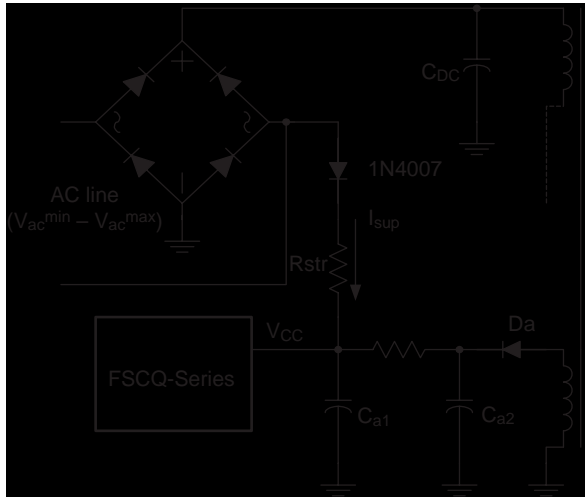
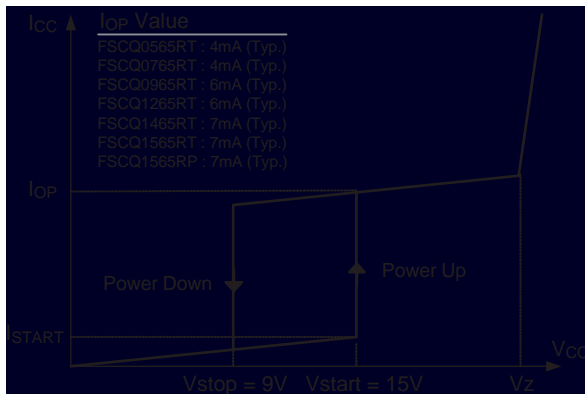

Figure 4. Startup circuit
Figure 5. Relationship Between Operating Supply Current and Vcc Voltage
**1. Startup:** Figure 4 shows the typical startup circuit and the transformer auxiliary winding for the FSCQ-Series. Before the FSCQ-Series begins switching, it consumes only startup current (typically 25µA). The current supplied from the AC line charges the external capacitor ( $C_{a1}$ ) that is connected to the  $V_{CC}$  pin. When  $V_{CC}$  reaches the start voltage of 15V ( $V_{START}$ ), the FSCQ-Series begins switching, and its current consumption increases to  $I_{OP}$ . Then, the FSCQ-Series continues its normal switching operation and the power required for the FSCQ-Series is supplied from the transformer auxiliary winding, unless  $V_{CC}$  drops below the stop voltage of 9V ( $V_{STOP}$ ). To guarantee the stable operation of the control IC,  $V_{CC}$  has under voltage lockout (UVLO) with 6V hysteresis. Figure 5 shows the relationship between the operating supply current of the FSCQ-Series and the supply voltage ( $V_{CC}$ ).